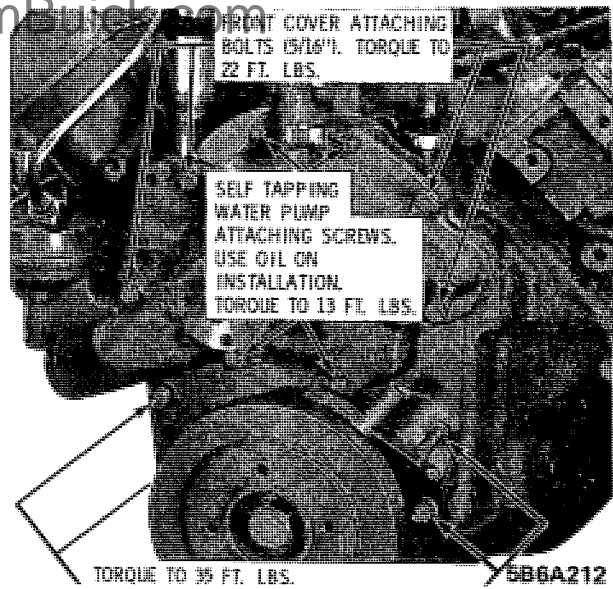

Figure 6A-207 - Engine Front Cover Bolts
3. Apply engine oil to bolts (Threds and heads) and install. Torque bolts evenly as indicated in Figure 6A-207.